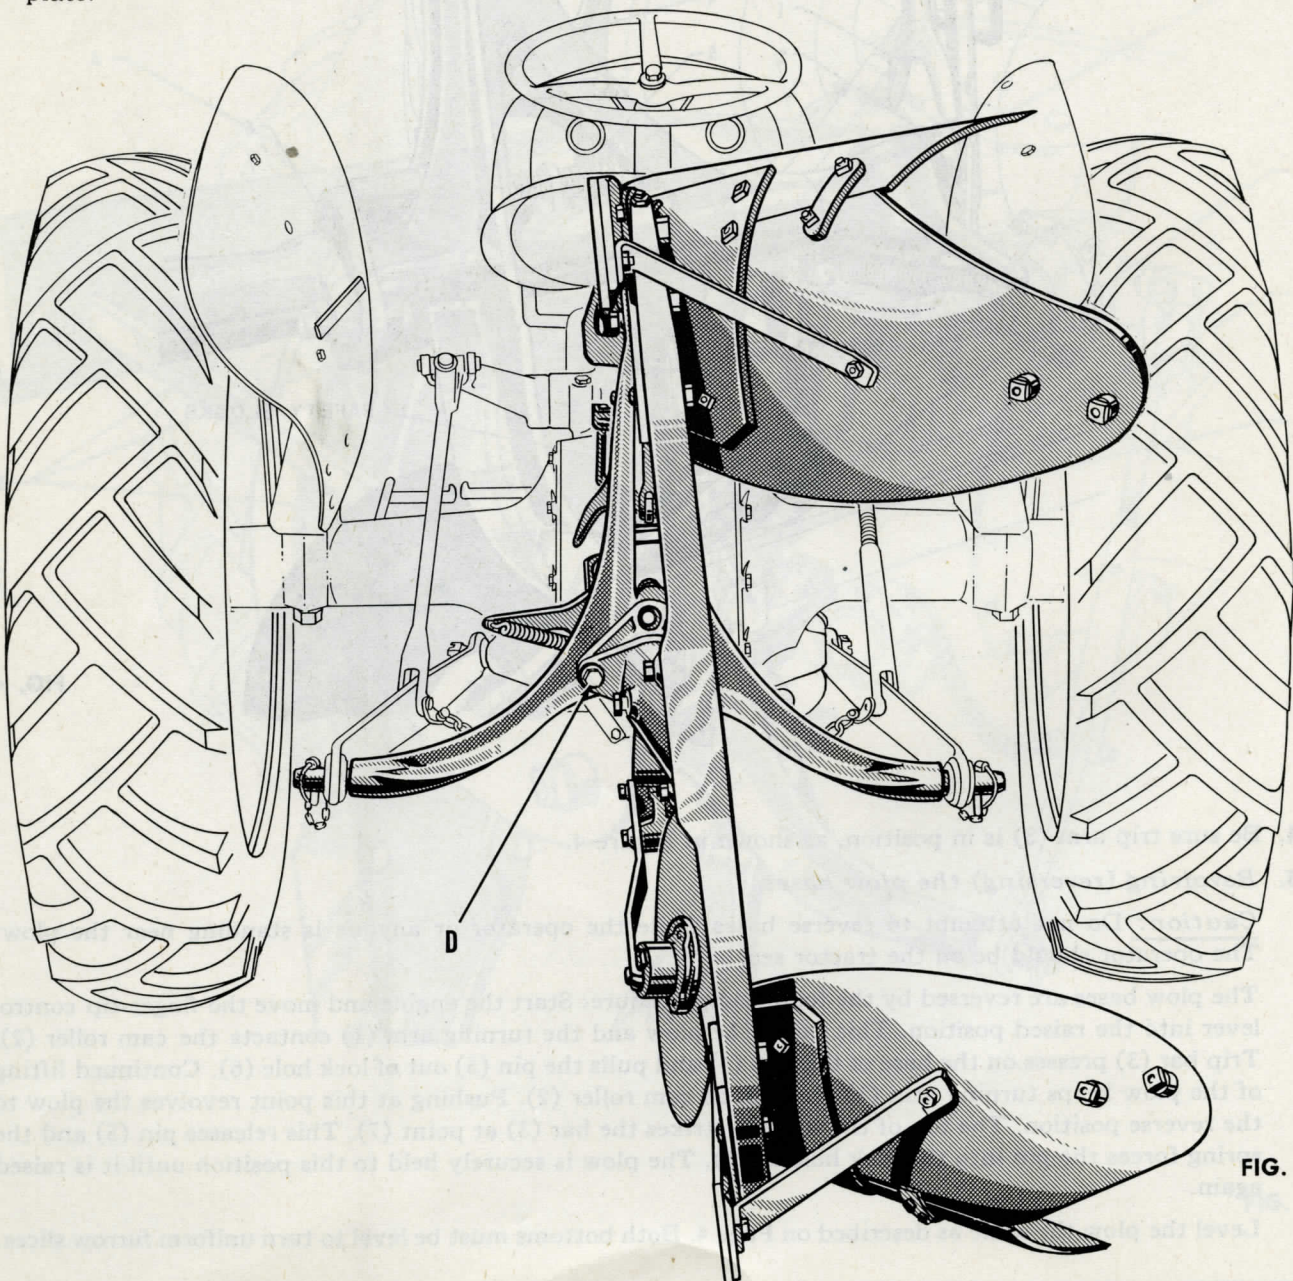

FIG. 5
4. If the furrow was opened with the right hand plow, place both left tractor wheels in the furrow, adjust the drawbar lift rods so they are the same length and the plow drawbar is parallel to the tractor axle. Loosen the cap screw D in Fig. 5. Rock the plow beams to a vertical position with the ground line and tighten cap screw. Care should be taken that the serrations on the washers match the serrations on the locking plate.